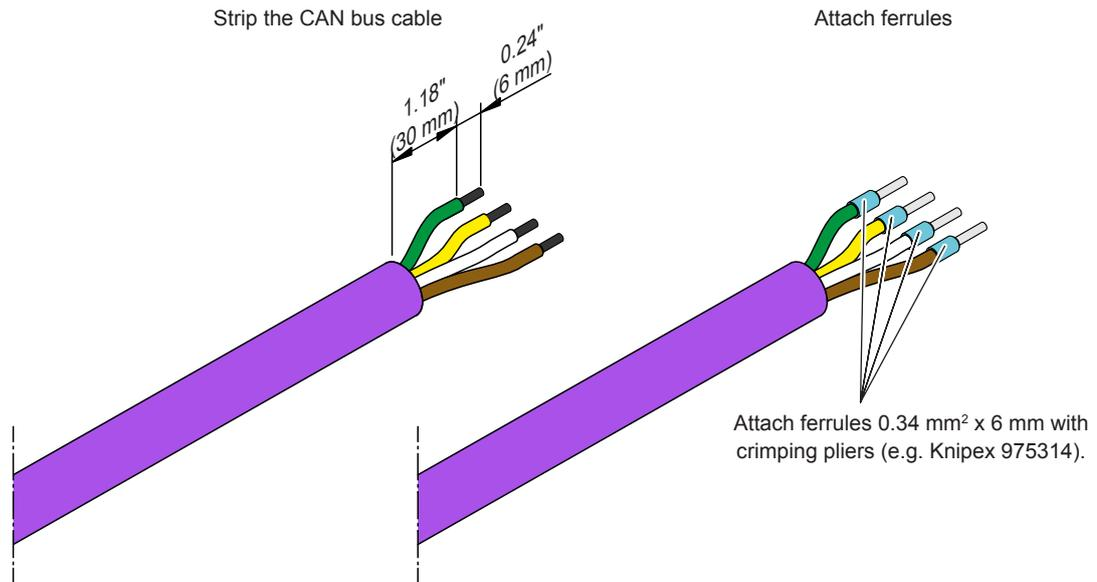

Fig. 45: Preparing cable(s)
- Prepare the CAN bus cable(s) to be connected to the drain module(s) according to Fig. 45.